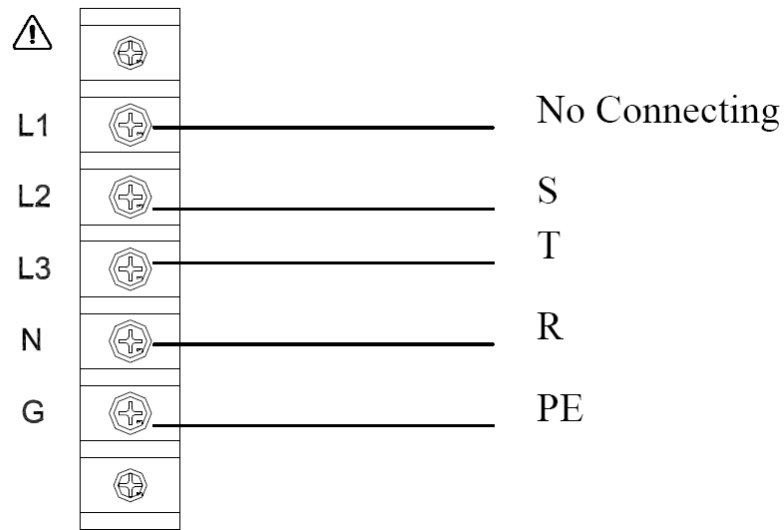
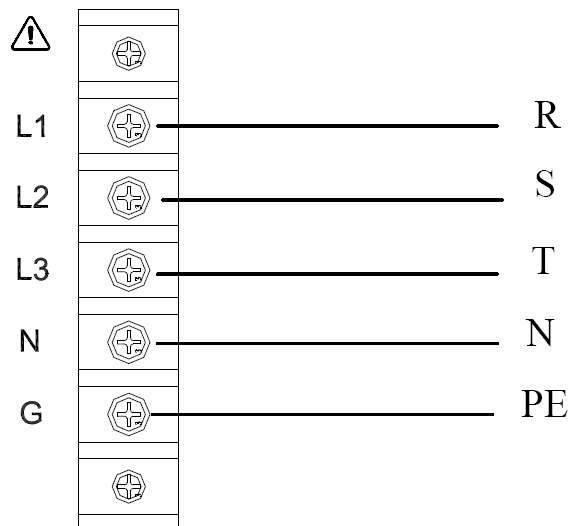

Figure 2-3 220VLL, 3-phase 4-wire Δ Input Connection
Figure 2-4 380VLL, 3-phase 5-wire Y input connection
- (5) To assemble 62050P → see Figure 2-3 & Figure 2-4